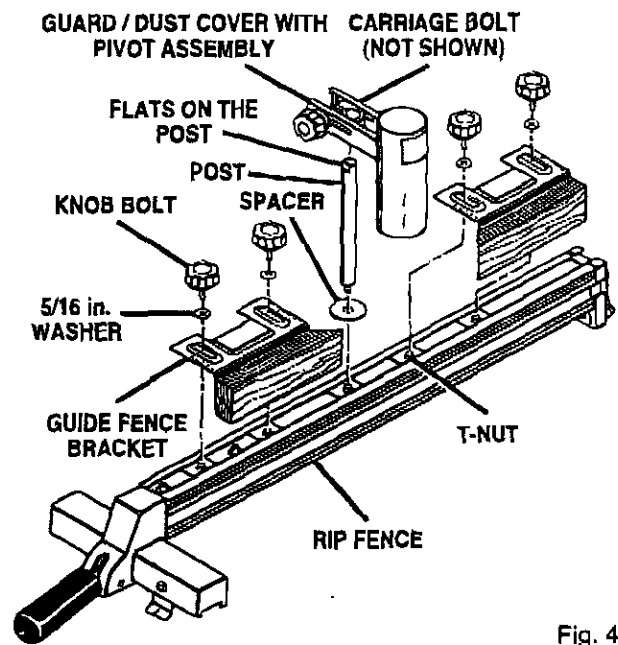

Fig. 4
- To install the guide fence brackets, align each bracket with two of the t-nuts on top of the rip fence. See Figure 4.